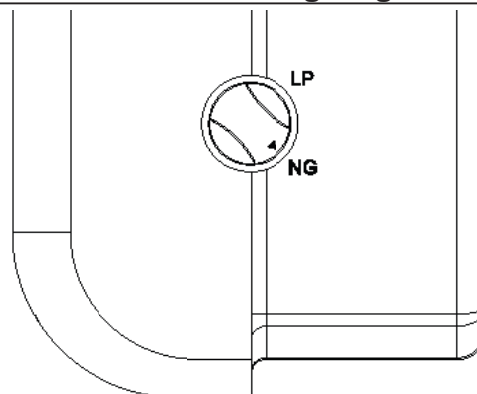
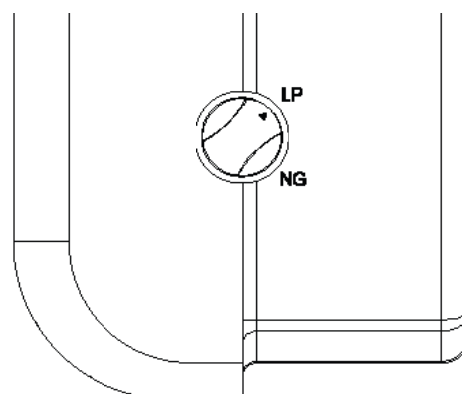

Figure 22 - NG Position
Figure 23 - LP Position
2. The knob is in the LP position (See Figure 23 on page 16). For NATURAL GAS, push the knob and turn clockwise until the knob locks into the NG position (See Figure 22 on page 16). The selection valve must be locked in the NG position. DO NOT operate the heater between the locked positions.
2. Before changing, the knob is in the NG position (See Figure 22). For Propane/LP GAS, push the knob and turn counterclockwise  until the knob locks into the LP position (See Figure 23). The selection valve must be locked in the LP position. DO NOT operate the heater between the locked positions.